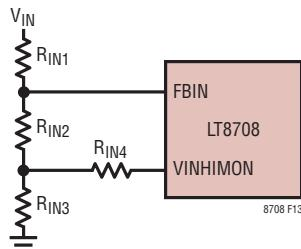
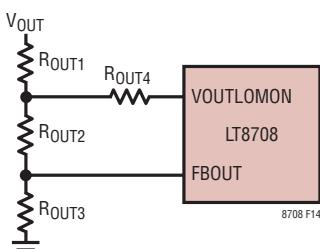

Figure 13. Single Divider for VINHIMON and FBIN
Figure 14. Single Divider for VOUTLOMON and FBOUT
2. Connect a resistor divider between V_{IN} , $FBIN$, $VINHIMON$ and GND to configure the V_{IN} regulation and overvoltage thresholds (see Figure 13). Connect a resistor divider between V_{OUT} , $VOUTLOMON$, $FBOUT$ and GND to configure the V_{OUT} regulation and undervoltage thresholds (see Figure 14).
R_{IN1-4} and R_{OUT1-4} are shown in Figure 13 and Figure 14.